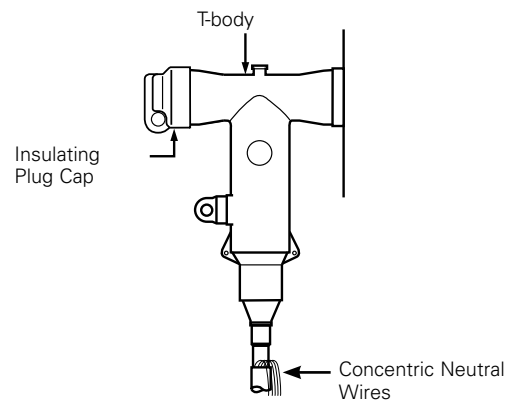

Figure 29. Line illustration of installing the insulating plug cap.
- Push cap onto insulating plug until it snaps into place. Refer to Figure 29.